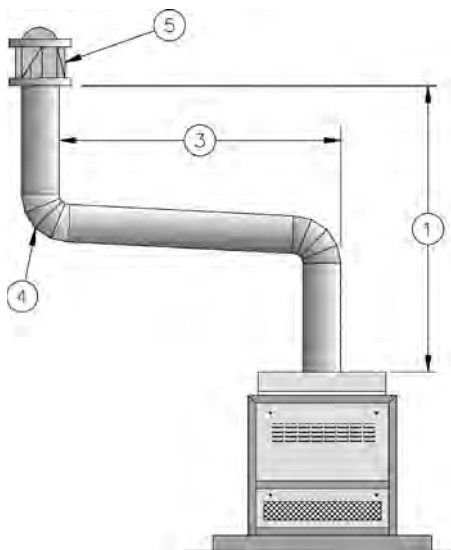

FIG. 40
2. INSTALL VENT SYSTEM – Typical vent systems are shown in Fig. 40 and 41. Some of the factors affecting vent sizing and construction accompany these figures.